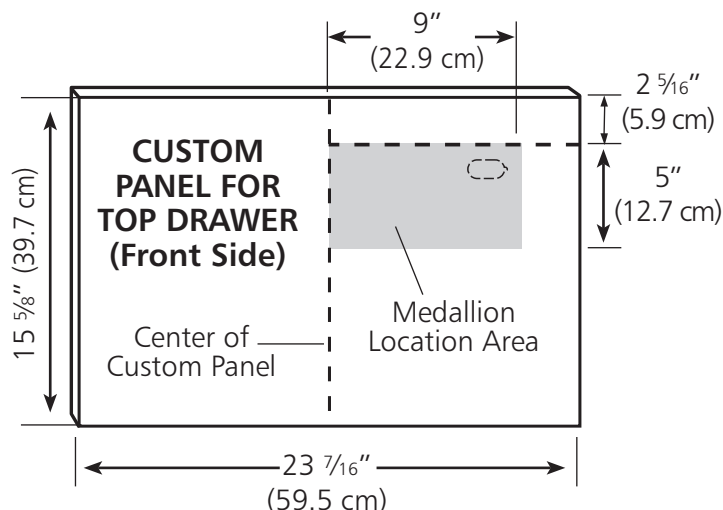

FIGURE 1A
- 1) Cut the top drawer custom door panel to size as shown (See figure 1A). The custom panels may be wider than the dishwasher in order to match the surrounding cabinets.
- 4) On the front side of the top drawer custom door panel, measure, mark and cut a hole for the medallion to size as shown (See figures 1A & 2).
NOTE: The medallion must be placed within the specified medallion area. Do not locate outside of this specified area (See figure 1A).